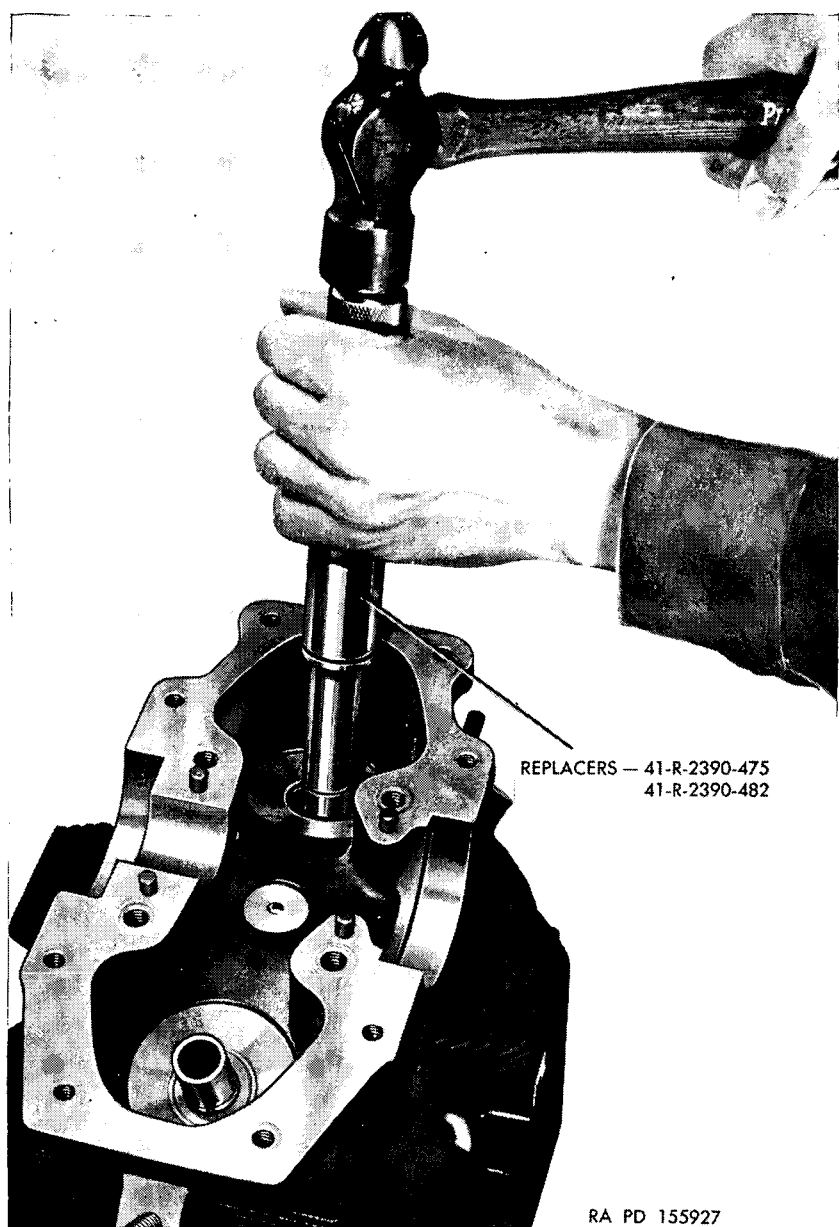

Figure 57. Installing valve guide.
guides) (fig. 57) are provided for installing replacement guides. To install a valve guide, pull the loose ferrule from end of the replacer. Place valve guide over tool, entering the short end of the guide into the hollow tool handle. Replace the ferrule to retain the guide. Enter the ferrule in the bore for the valve guide and drive the guide to its seat. Withdraw the replacer. Replace the loose ferrule on the tool.
1. *Exhaust valve guides* (fig. 57). For exhaust valve guides use pilot bushing 41-B-2181-150 (fig. 7), roughing reamer 41-R-2254-570, and finishing reamer 41-R-2254-520 (fig. 6).